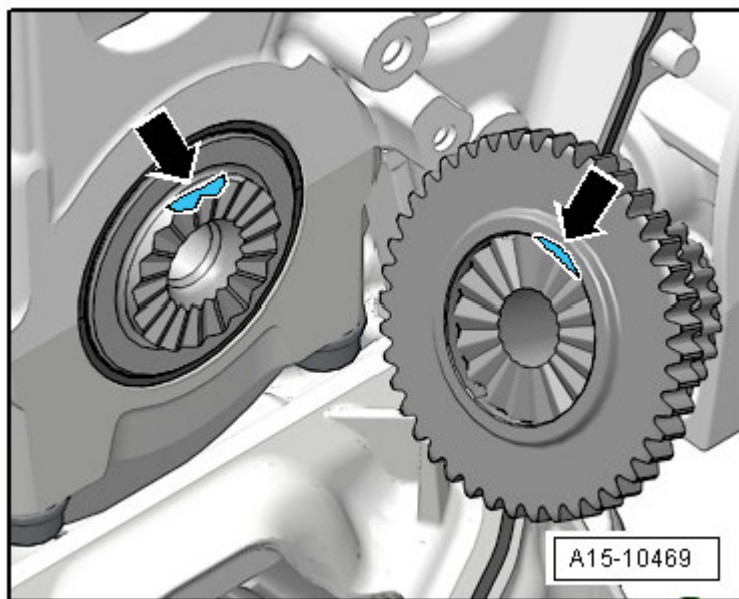

Fig. 11: Chain Sprocket Crankshaft, Installation Position
- Installed position, refer to **Fig. 11**.